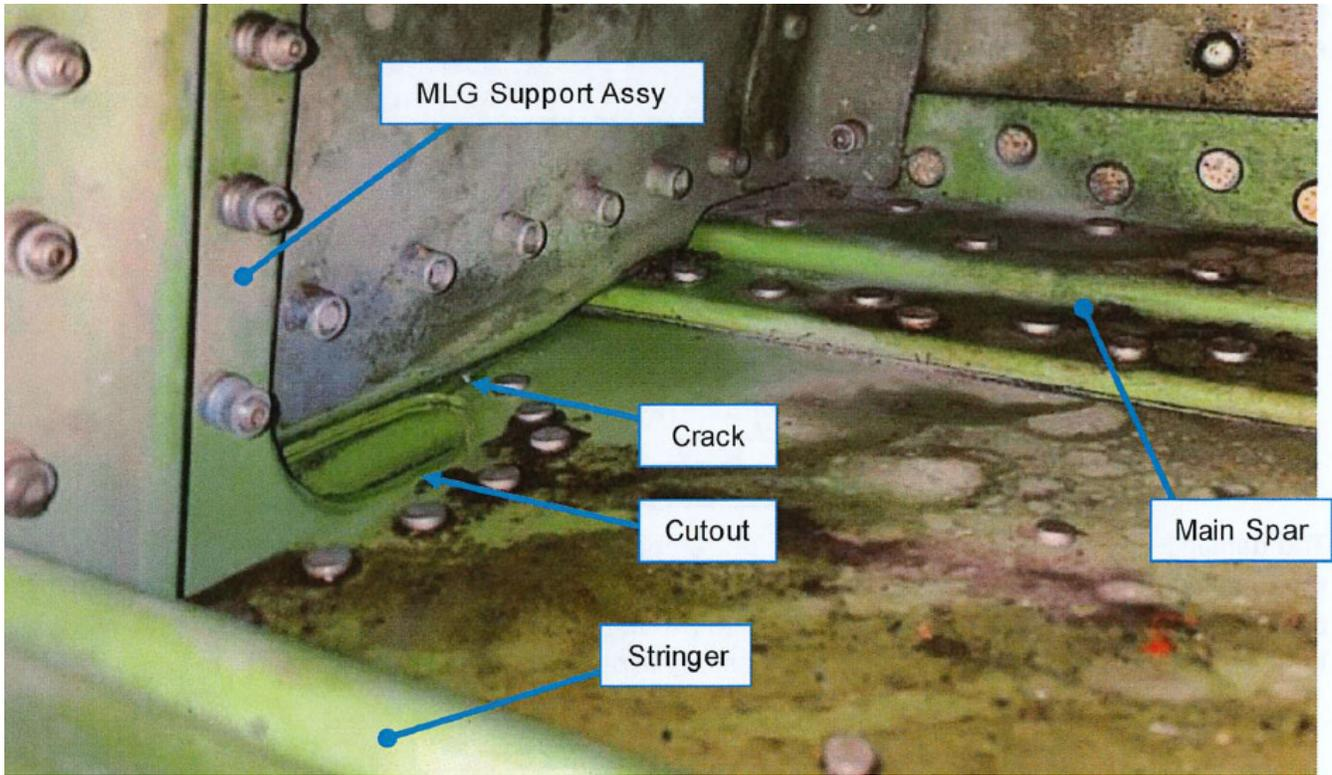

Figure 2. View inside the nacelle, looking forward and slightly down (crack propagating forward of FWD cutout radius towards front spar).
4. Visually inspect the cutout area for cracks using good light (min 100fc). If possible, take photos of noticeable cracks and include these photos with your compliance card, which can be mailed or emailed to the address shown. See Figure 2 for typical crack locations.